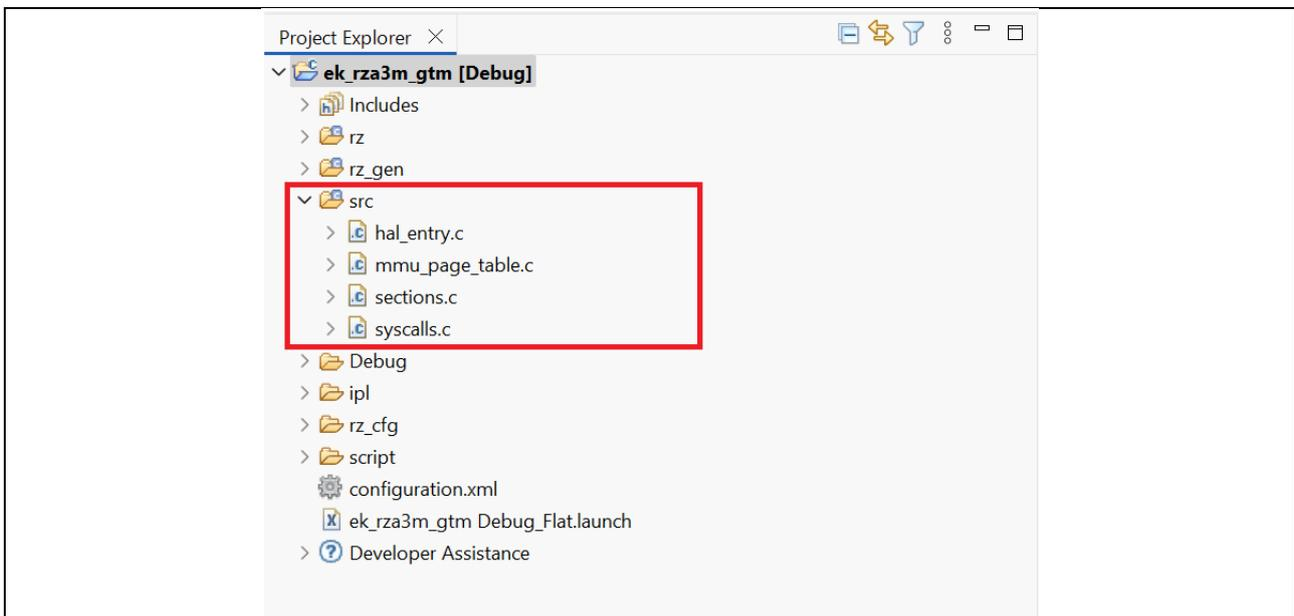

Figure 7. e2 studio Project folder structure
- If the above steps are completed successfully, the src folder will be available in the workspace, as shown in Figure 7.